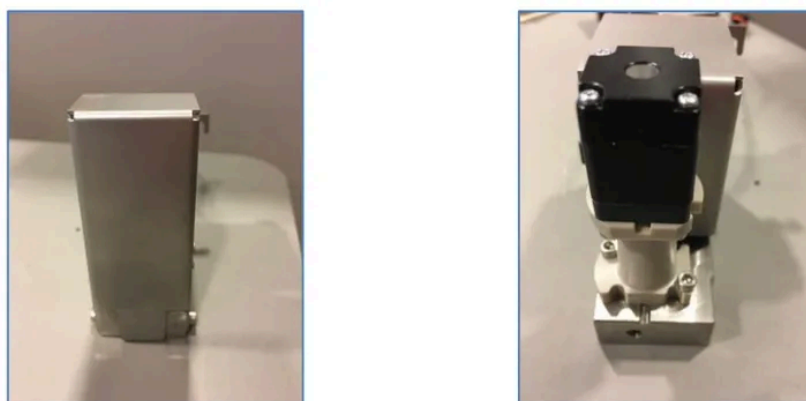

Fig. 15 Back Pressure Valve
The Back-Pressure Valve (Fig. 15) maintains a stable positive pressure in the system to ensure a consistent light path and prevent air bubbles from forming in the Cuvette. Air bubbles can scatter infrared (IR) energy passing through the sample, resulting in inconsistent measurements.